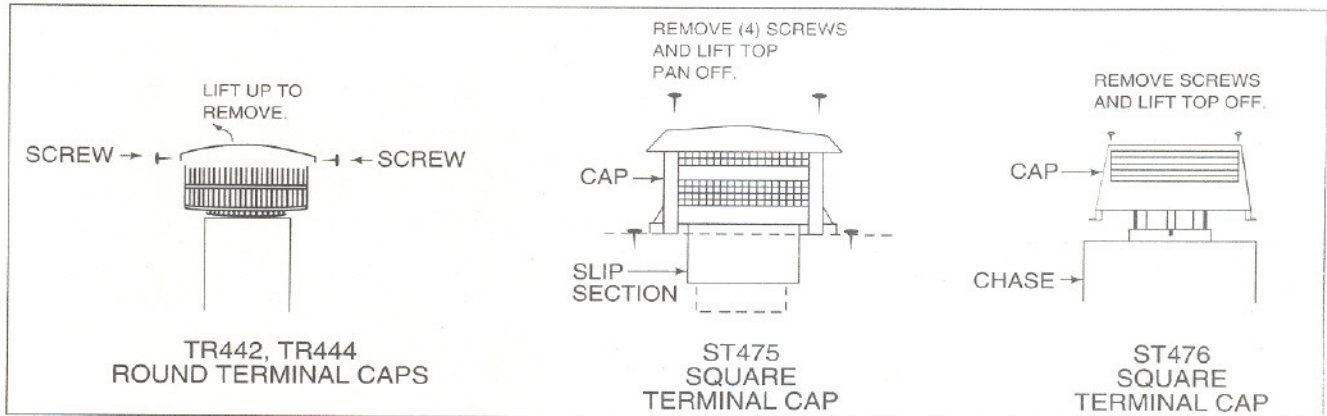

Figure 26
3. Remove the Terminal Cap or Housing Top. See Figure 26.